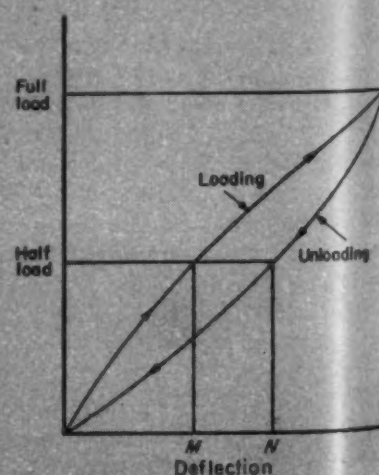

Fig. 6—"Back-error,"  $MN$ , stems from hysteresis of the material; the lag in deformation of an elastic material
**Hysteresis:** Mechanical hysteresis is well known in the scale industry as "back error." This phenomenon occurs during the removal of a previously applied load and is the lag of the deformation of an elastic material. The magnitude of deformation depends upon the material. For high-grade spring alloys, the hysteresis error ordinarily would be about 0.02 per cent of the total deflection. For some spring materials, the back error is usually 0.1 to 0.2 per cent of the total deflection. Fig. 6 illustrates the hysteresis loop resulting with a complete loading and unloading cycle of a spring. The deflection difference  $MN$  is the actual hysteresis error.